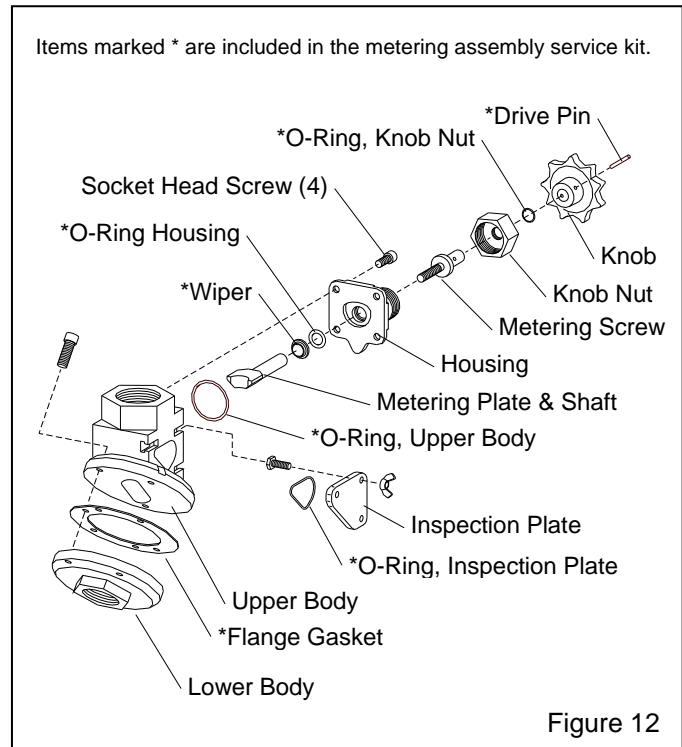

Figure 12
**6.7 Quantum Manual Metering Valve, Figure 12**